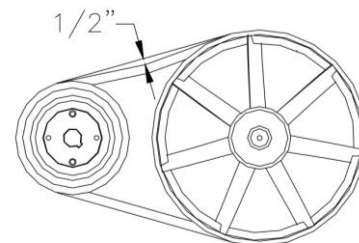

Figure 19
7. Check for proper belt tension. (Figure 19)